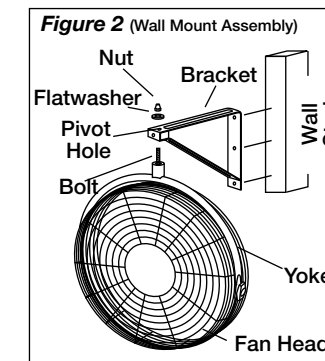

Figure 2 (Wall Mount Assembly)
- Locate the wall or ceiling stud nearest to the desired Fan location. Following the proper mounting diagram, attach the Bracket to the stud using three (3) 5/16" diameter x 2" long Lag Screws (Not Supplied) or appropriately sized Bolts and Nuts if attaching to "I" beams. Wall Mount Assembly (Figure 2) Ceiling Mount Assembly (Figure 3)
- Insert Bolt through Yoke, Bracket, Pivot Hole, Flatwasher, and into Locknut. (Figure 2) or (Figure 3)